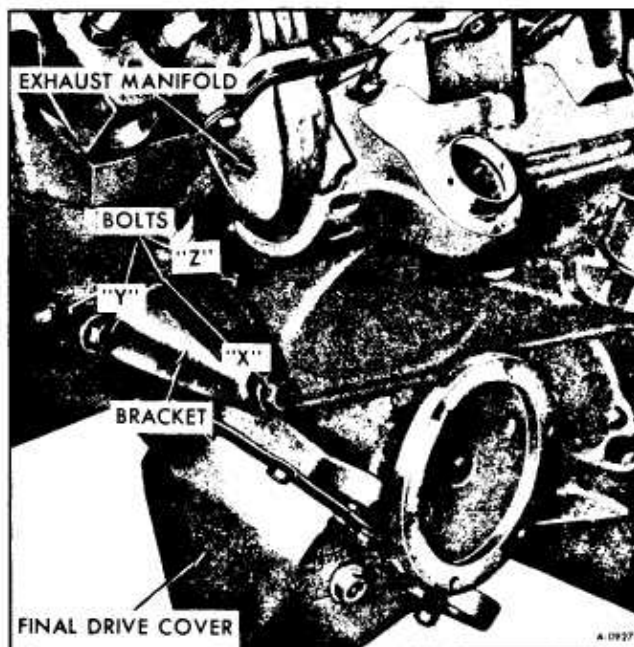

Figure 58-Disconnecting Final Drive From Engine
13. Remove bolt "Z". (See figure 58).
14. Remove three (3) bolts that secure the converter to the flywheel.
7. Referring to Figure 58, install bolt "Z" and torque to 105 ft. lbs.